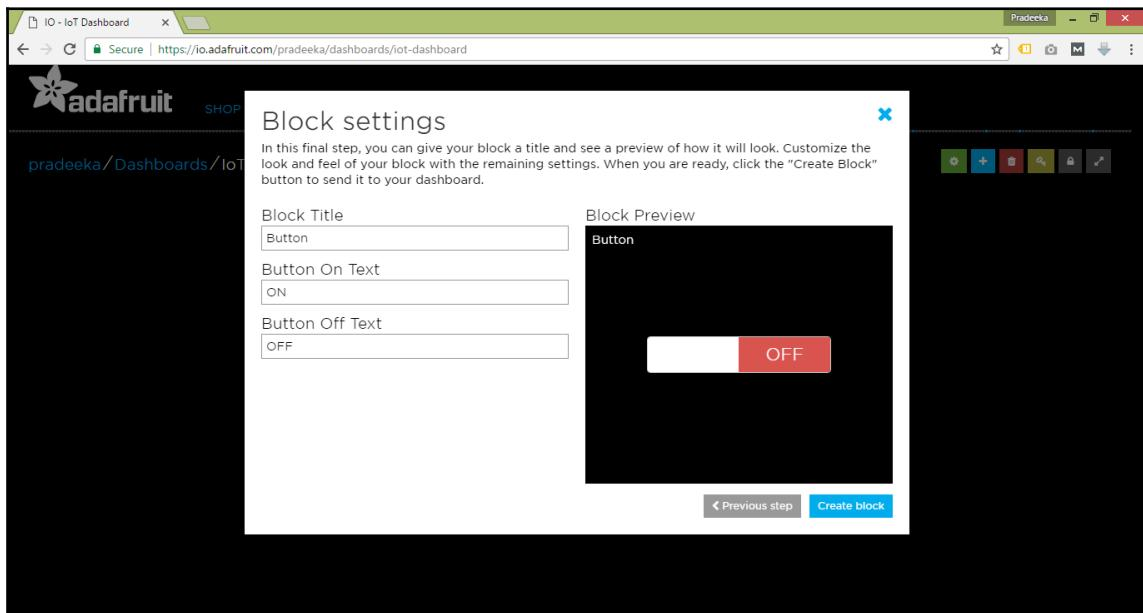

Figure 4-38: Settings for the button
5. In the **Block Settings** dialog box, click the **Create block** button to create the block (Figure 4-38). A new toggle button will be added to your dashboard in the default state, **OFF**: